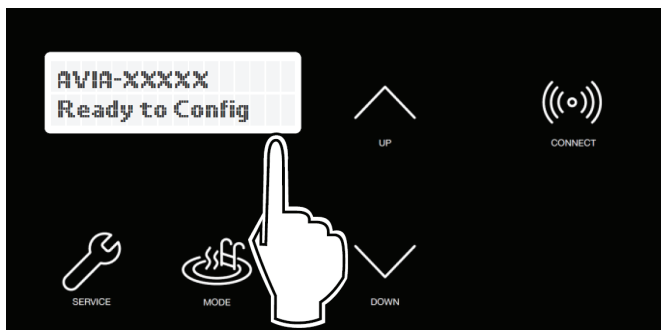

Figure 80. Wi-Fi Ready to Configure and HOTSPOT Identifier
2. The **CONNECT** menu should display the Wi-Fi State, indicating "Ready to Config" wireless connection, and also the **HOTSPOT** identifier. See **Figure 80**.